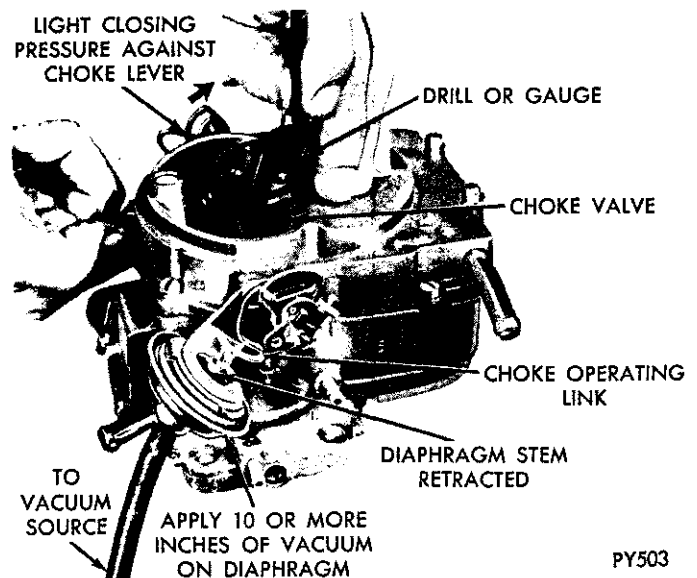

Fig. 13—Checking Choke Vacuum Kick Setting (Wide Open Kick)
(2) When using an auxiliary vacuum source, disconnect vacuum hose from carburetor and connect it to hose from vacuum supply with a small length of tube to act as a fitting. Removal of hose from diaphragm may require forces which damage the system. Apply a vacuum of 10 or more inches of mercury.
(3) Insert specified drill (refer to Specifications) between choke valve and wall of air horn (Fig. 13). Apply sufficient closing pressure on lever to which choke rod attaches to provide a minimum choke valve opening without distortion of diaphragm link. Note that the cylindrical stem of diaphragm will extend as internal spring is compressed. This spring must be fully compressed for proper measurement of vacuum kick adjustment.
(4) An adjustment will be necessary if a slight drag is not obtained as drill is being removed. Shorten or lengthen diaphragm link to obtain correct choke opening. Length changes should be made carefully by bending (open or closing) the bend provided in diaphragm link. **CAUTION: DO NOT APPLY TWISTING OR BENDING FORCE TO DIAPHRAGM.**
(5) Reinstall vacuum hose on correct carburetor fitting. Return fast idle linkage to its original condition if disturbed as suggested in Step No. 1.
(6) Make following check. With no vacuum applied to diaphragm, the **CHOKE VALVE SHOULD MOVE FREELY** between open and closed positions. If movement is not free, examine linkage for misalignment or interferences caused by bending operation. Repeat adjustment if necessary to provide proper link operation.